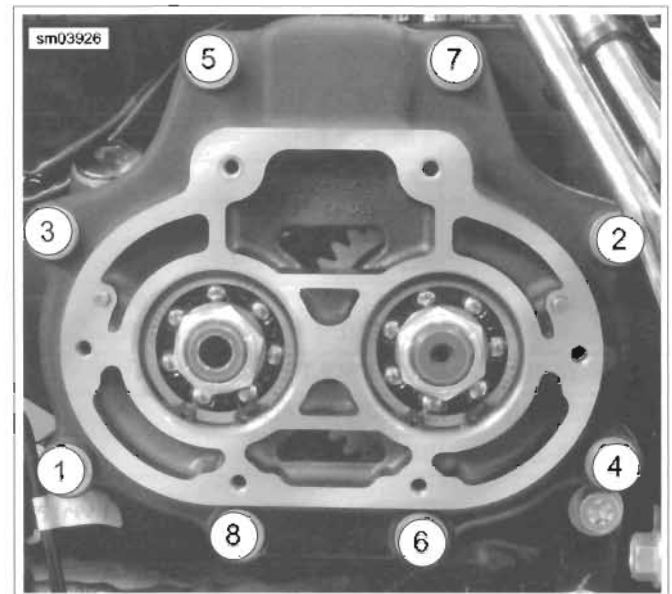

Figure 6-33. Bearing Housing Hardware Torque Sequence
- See Figure 6-33. Tighten all bearing housing hardware in the sequence shown to 23-25 ft-lbs (31.2-33.9 Nm).